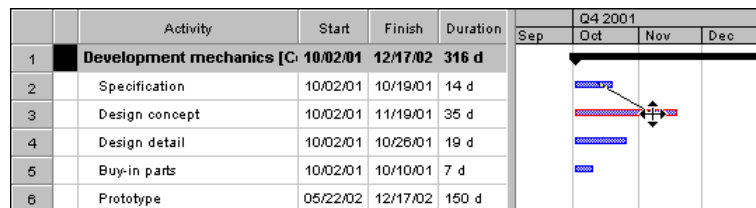

Figure 69: ... within a schedule
2. Hold the left mouse button down and drag the mouse cursor to the later of the activities to be linked. The schedule bar of the second activity is shown in changed form when the cursor moves over it (Figure 69). Now release the mouse button. Both activities are now linked by means of an arrow.